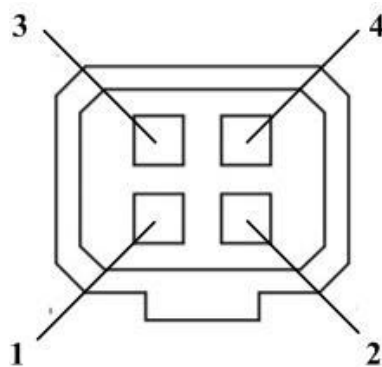

Figure 2-2 Auto-iris Interface
- The type of auto-iris interface is shown in Figure 2-2, and the definition of each pin is shown below: